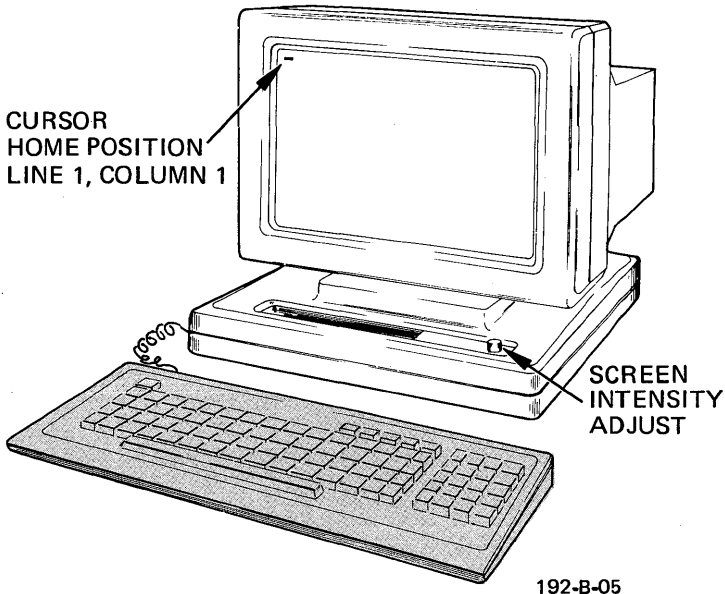

Figure 3-1. The Screen Display After Powering On the Terminal
- In about ten seconds the cursor should appear at its Home position (the QVT-102 will also display the status line on the 25th line of the screen until it is disabled by command code). Note: It may be necessary to adjust the screen intensity by rotating the knob on the right corner of the display module to make the display visible. Refer to Figure 3-1;